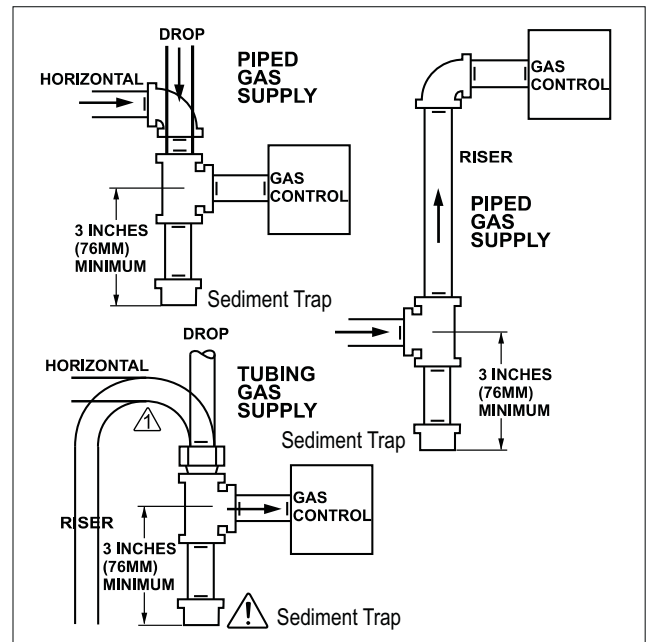

Figure 8: Sediment Trap (where required)
2. Install the sediment trap (where required) in the gas supply line to prevent contamination of the gas valve (see figure 8).